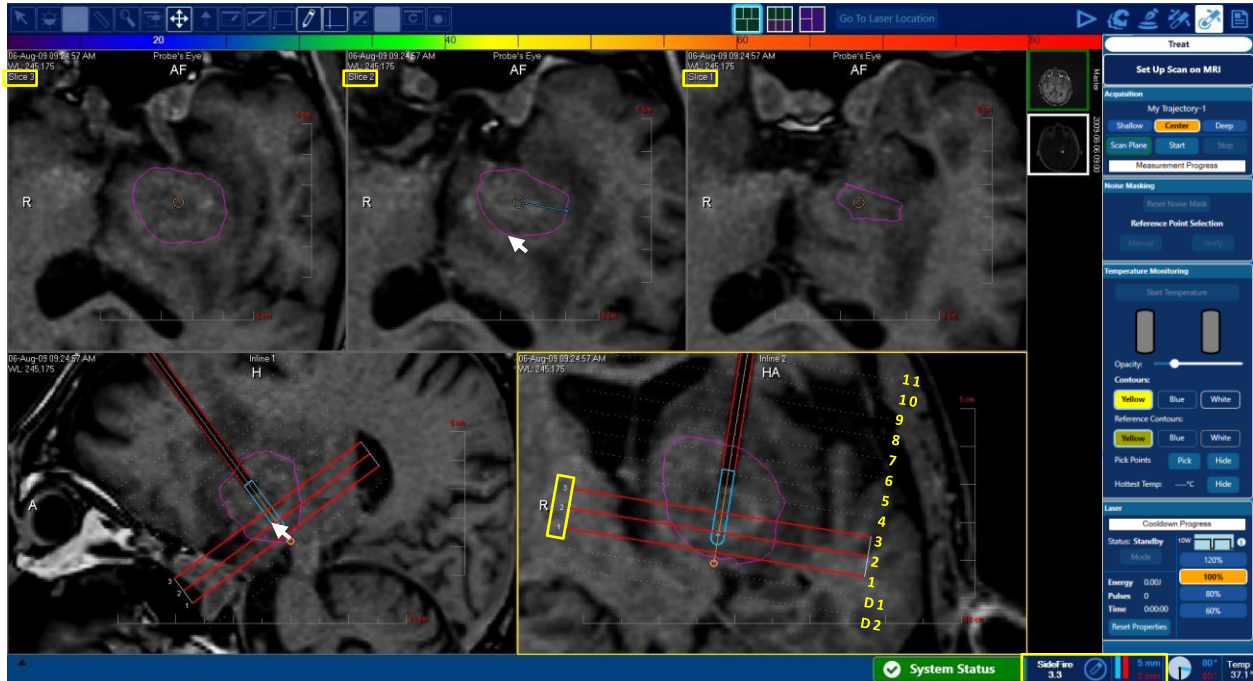

Figure 8.8.1: Adjustment of LDP Linear Position
- Use the white cursor arrow to adjust the software rendered LDP depth by clicking on and dragging light blue capsule at the distal end of the software rendered probe to the desired linear position for thermal delivery (Figure 8.8.1)
- Adjust the software rendered LDP rotary position to the desired direction (angle) for thermal delivery by clicking and dragging the beam direction line (Figure 8.8.1) - rotary position adjustment for the FullFire LDP is NOT required since it has no impact on laser energy emission
As the software rendered probe adjusts on the screen, the three active thermal monitoring planes will adjust to stay centered over the laser exit position on the probe (the X on the software rendered probe). The active slice plane numbering corresponds to the slice numbers displayed in the upper left-hand corner of each of the three view upper view panes (see yellow boxes in Figure 8.8.1).